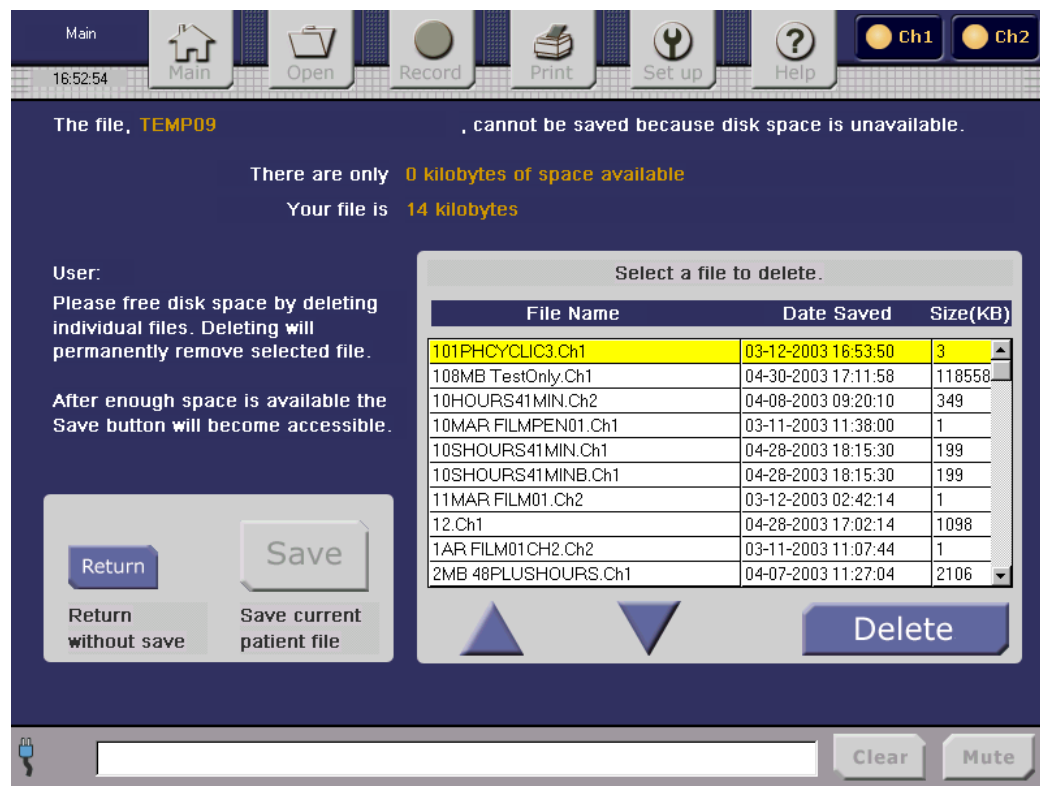

Figure 32. Free Disk Space for File Save Screen
There are 200 Megabytes (MB) of disk storage for data log files. This is equivalent to three months of continuous recording of data for two channels. If the operator tries to save a logged file that would exceed the 200 MB limit, the console will display the **Free Disk Space for File Save** screen (shown in Figure 32).